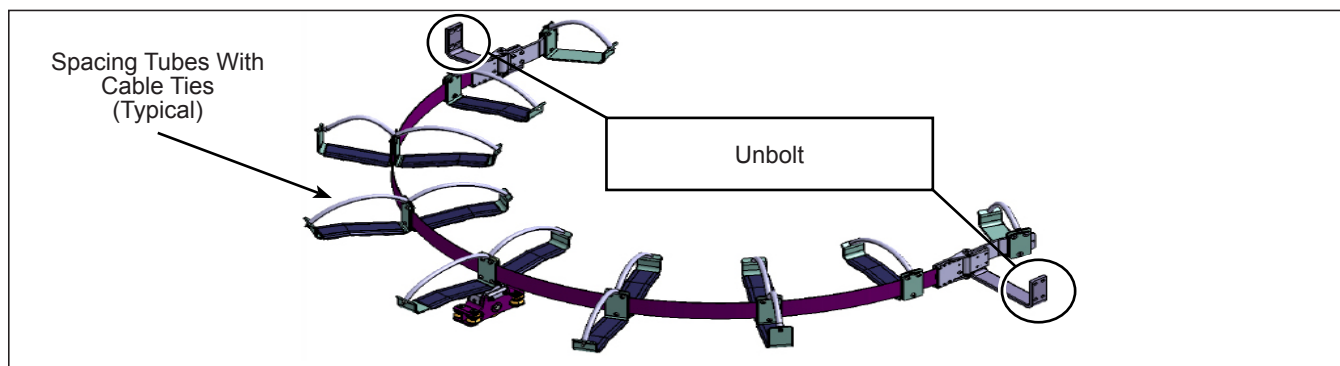

Figure 3 - Remove the Spacing Tubes and Unbolt the EGS
- 1.6.1. Cut the cable ties retaining the spacing tubes that extend across the top of the hoses and cables. See Figure 3.
- 1.6.2. Unbolt the EGS from the front and the rear section of the vehicle. See Figure 3.